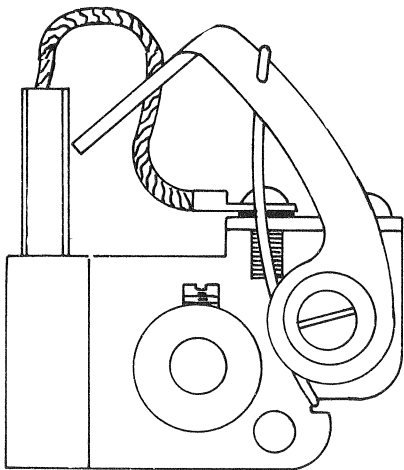

FIGURE 2-1 BRUSH RAISED IN BRUSH HOLDER.
- a. Before assembling generator to engine, remove exciter and generator covers and raise the exciter and generator brushes in their holders as shown in figure 2-1.